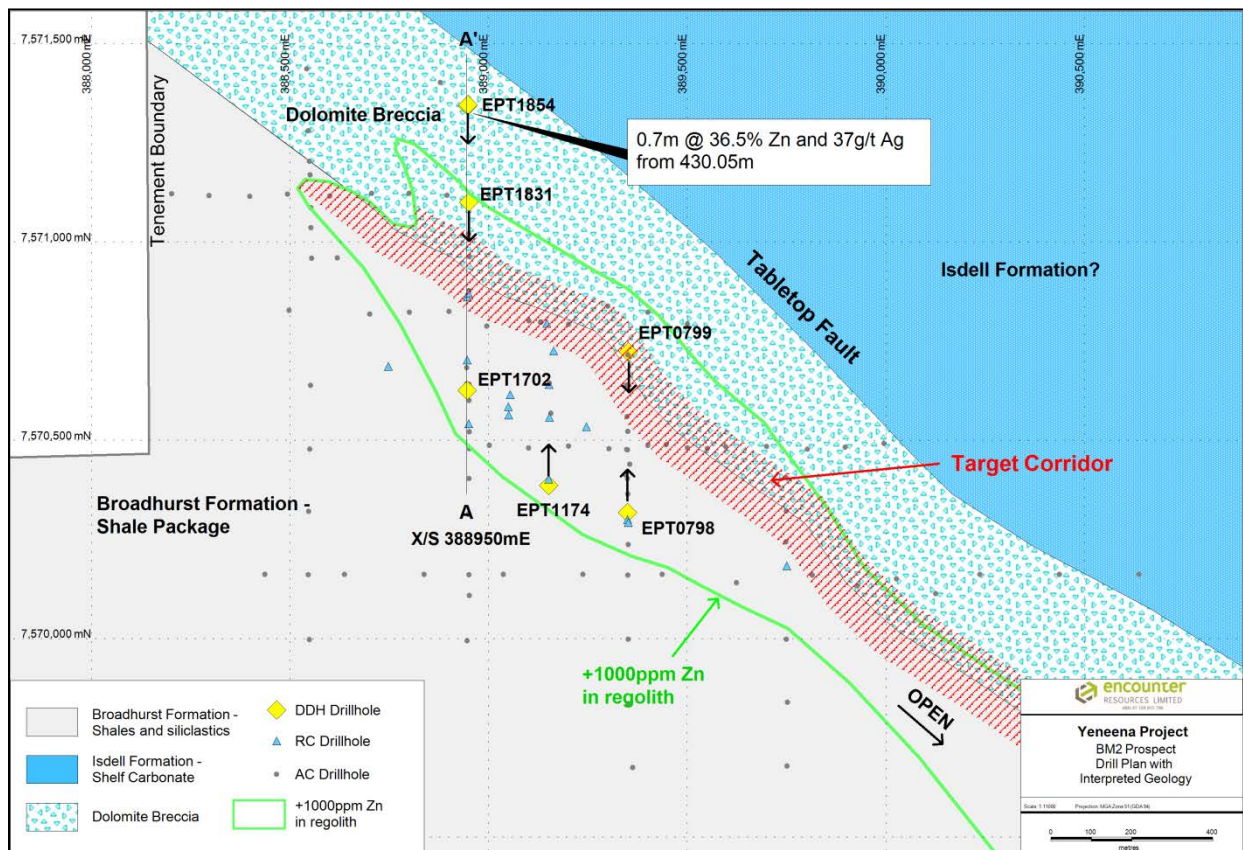
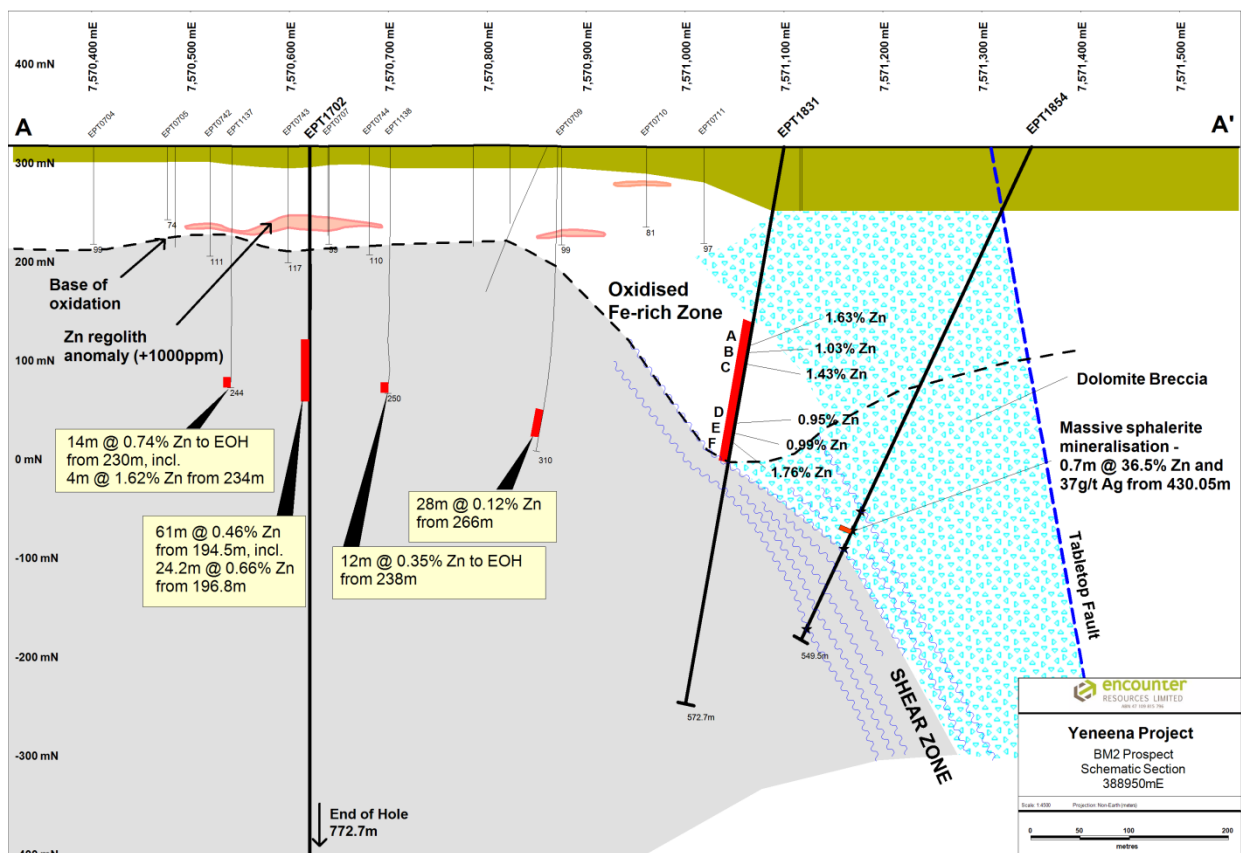

Figure 1 – BM2 Prospect – Drill status plan and geochemical summary.
Figure 2 – BM2 Prospect – Schematic Section.
- The zinc regolith anomaly along the target contact, and above this latest massive sulphide zinc intersection, is over 2km in strike length (see Figure 1):
Three holes were drilled at BM2 in this program for a total of 1,824m. These holes were drilled on the north-south cross section 388,950mE (see Figure 1).
The zinc sulphide mineralisation sits within a wide shear zone at the contact between carbonaceous shale and a brecciated dolomite adjacent and parallel to the Tabletop Fault (Figure 2). Drillhole EPT1854 is the first hole to test the shale/dolomite mineralised contact below the base of oxidation. Previous shallow aircore and RC drilling along the mineralised contact has intersected a zone of zinc oxide anomalism over a strike length of 2km which remains open to the south-east (Figure 1).
Table 2: EPT1831 Analytical results from spot samples (sample positions shown on Figure 1).
The Yeneena Project covers 1,900km² of the Paterson Province in Western Australia and is located 40km SE of the Nifty copper mine and 30km SW of the Telfer gold/copper deposit (Figure 1). The targets identified are located adjacent to major regional faults and have been identified through electromagnetics, geochemistry and structural targeting. The targets are hosted within sediments of the Broadhurst Formation in a similar geological setting to the Nifty copper deposit (total resource of 148.3mt @ 1.3% Cu – Straits Resources Ltd, 2001).